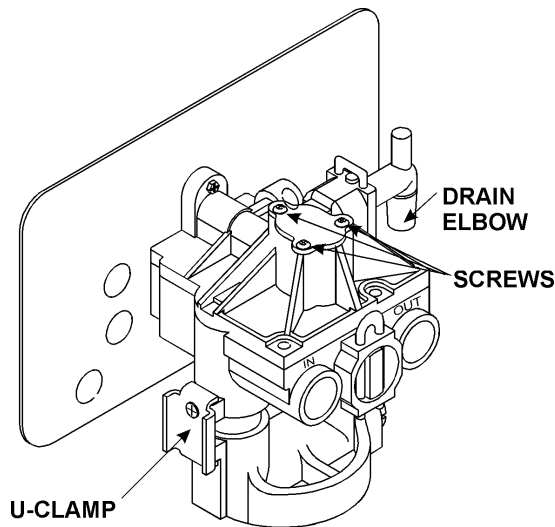

FIG. 2
See Fig. 2.
3. The control valve is marked also with "IN" and "OUT" (Fig. 2). Place the control onto the tank with the inlet and outlet of the control corresponding with the inlet and outlet of the tank. Press firmly onto the couplings.
4. Locate the two U-clamps and screws in the small parts package. Install the clamps on both sides of the control as indicated in Fig. 2 and secure them with the screws.
For the eductor, refer to Fig. 2.